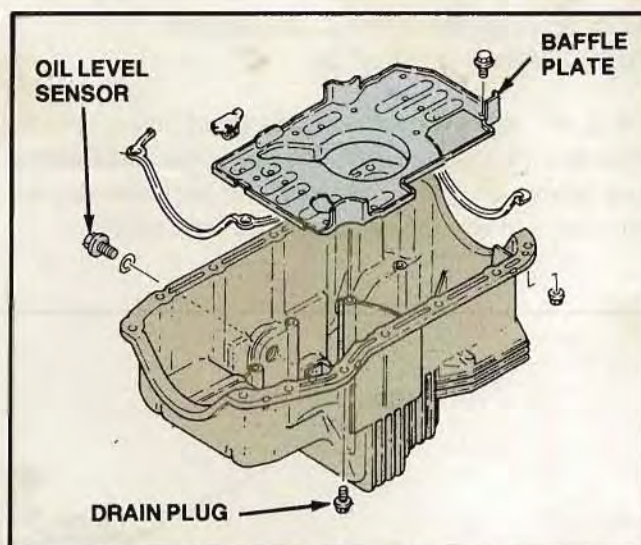

Figure 85. Oil Pan Assembly
- The following parts should be installed on the oil pan before it is attached to the cylinder block (Fig. 85):